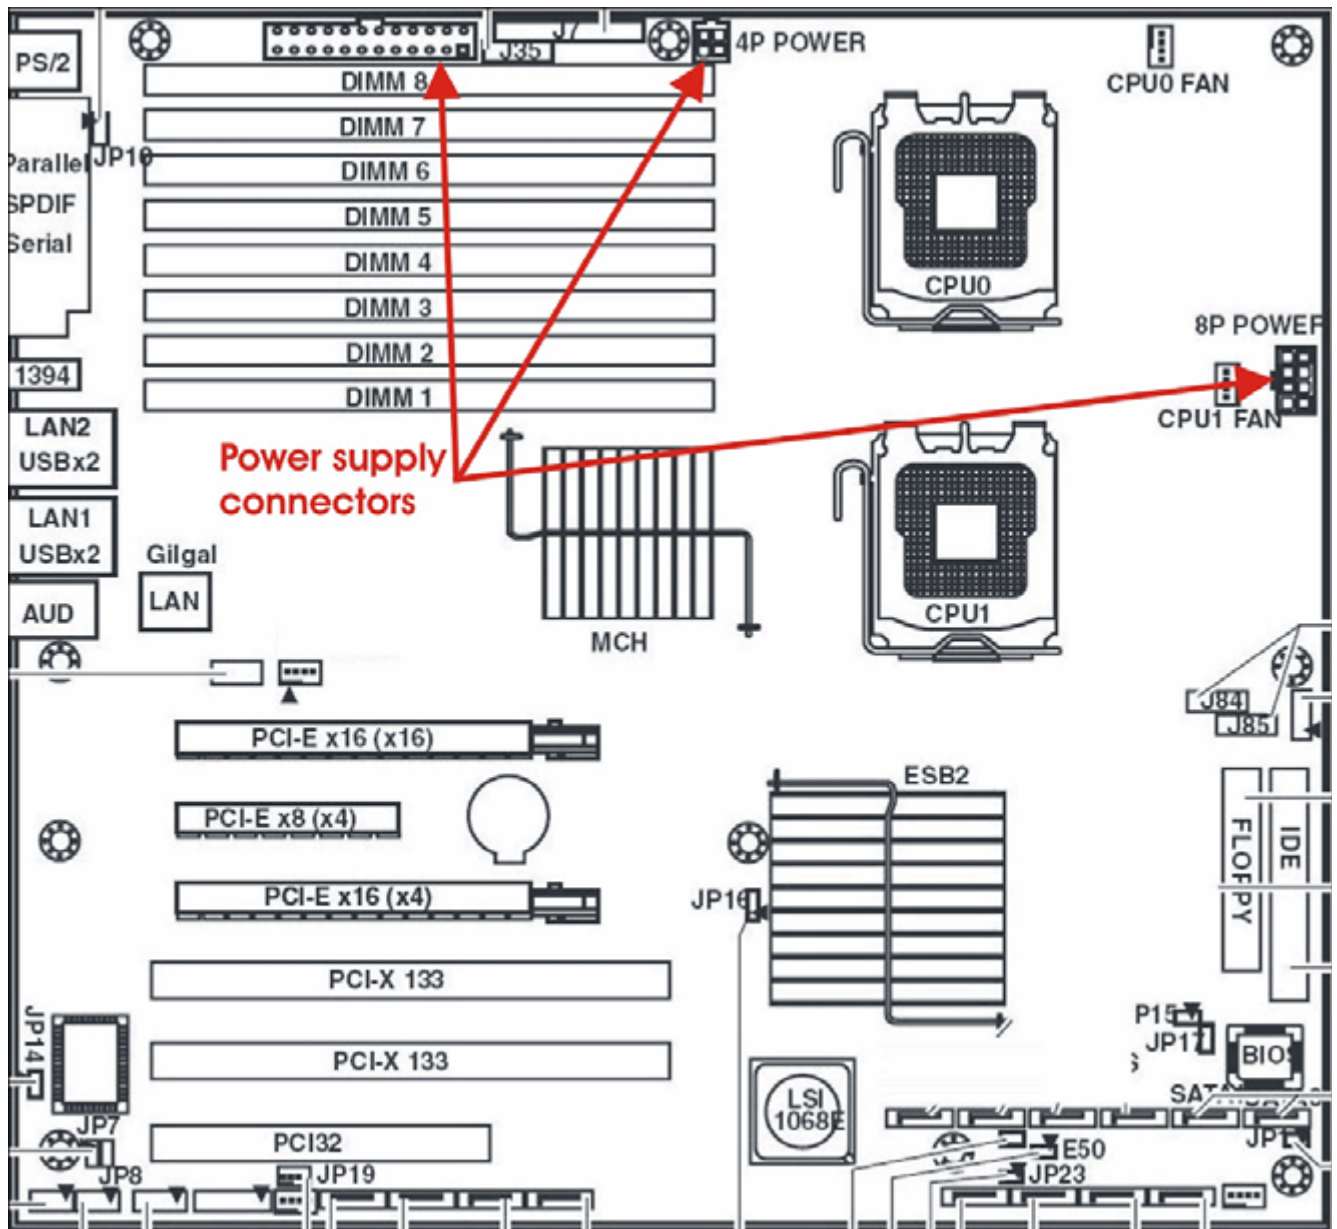

Fig. 20: Mainboard / power supply
- Make notes about the power connectors (mainboard refer to [\(Fig. 20 / p. 25\)], drives and graphics board) and the ducting of the power supply, and disconnect all of them.